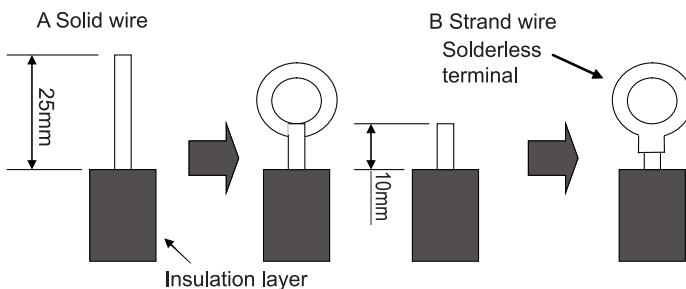

Fig.29
- (1). For solid core wiring (Fig.29)
- (2). For strand wiring (Fig.29)